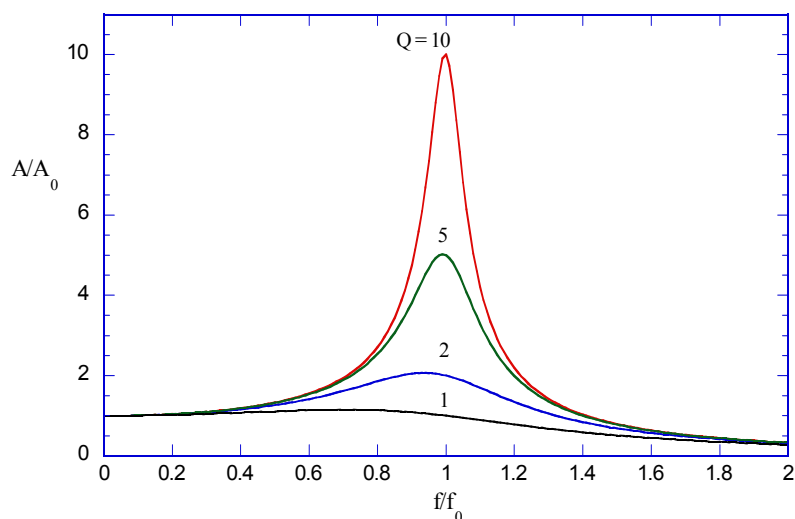

Fig. 3. Amplitude as a function of frequency for various values of $Q = 2\pi f_0 m/b$
At $\omega = \omega_0$ the displacement is 90° out of phase with the driving force. From Eq. (30) we see that the amplitude would go to infinity if b , the damping coefficient, is zero. In many mechanical systems one has to build in damping, otherwise resonance could destroy the system. Increased damping will lower the amplitude but widen the resonance curve (Fig. 3).
is presented in Fig. 3 for different ratios of b/m .
1. Now we want to be able to produce a graph like that in Fig. 3. You will want to find the amplitude for some frequencies around the resonant one. You already have data for f_R , 0.1 Hz, and $2f$. Try frequencies of $0.80f_R$, $0.90f_R$, $0.95f_R$, $1.05f_R$, $1.10f_R$, and $1.20f_R$, around the resonant frequency and find the peak-to-peak amplitude $2A$. One group member should continue with the next step 2 while taking these data.
2. Type your values for all the frequencies f and the amplitudes $2A$ into Excel and **produce a graph** like that shown in Fig. 3 for your data. Just plot $2A$ versus f instead of A/A_0 versus f/f_0 that is shown in Fig. 3. Your graph should have the same shape. If you have more time, measure $2A$ for additional frequencies to fill out the graph you produce. **Include your table and graph in your report.**